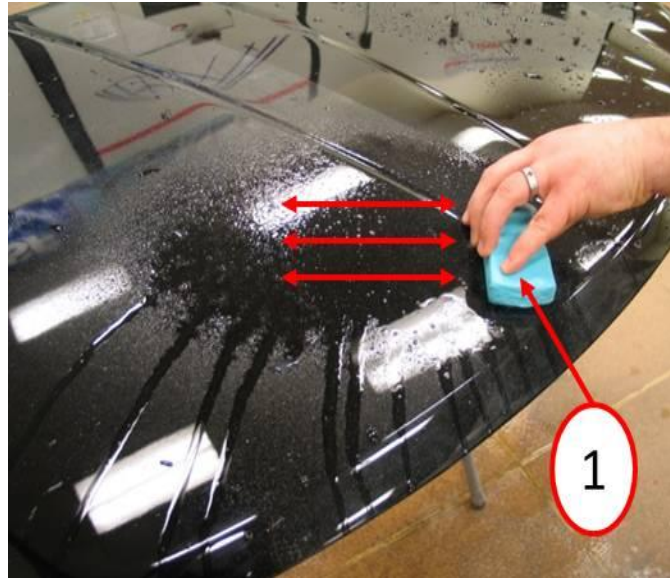

Fig. 4 Clay Bar
- Using a clay bar work in a unidirectional pattern while the detail spray applied in Step #2 is still wet as shown in (Fig. 4).